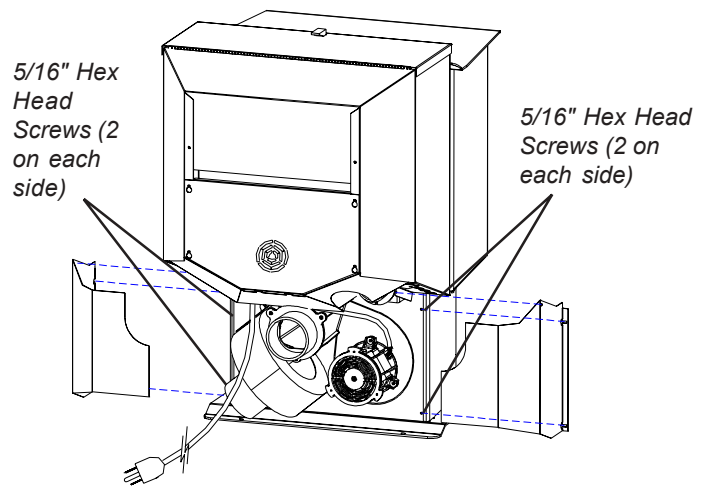

Fig. 25
8. Clean heat exchanger with scraper as shown in fig 25.